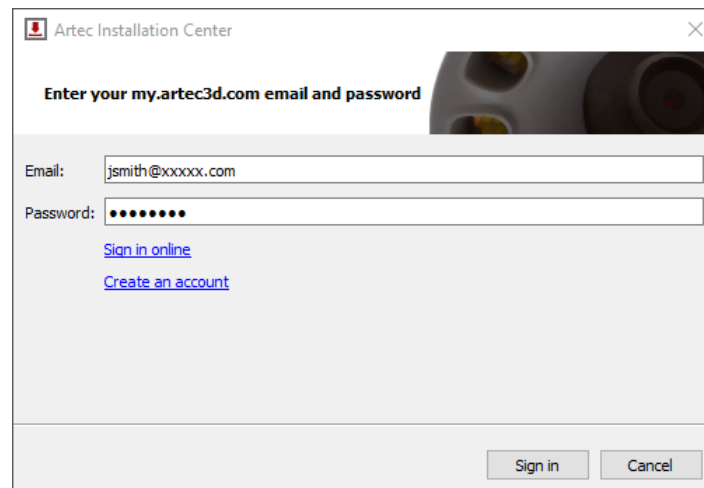

Figure 29: Authentication for Artec Installation Center
2. After downloading, open the folder that contains the executable and run it. Follow the instructions on the installation screens. Once Artec Installation Center is installed, you will see a dialog requesting your email address and password. Use your my.artec3d account to log in as Figure 29 shows.
If you have yet to install Artec Installation Center, a login dialog will appear, as Figure 29 shows. If you are not connected to the Internet, consult Offline Activation regarding offline activation of Artec Studio.